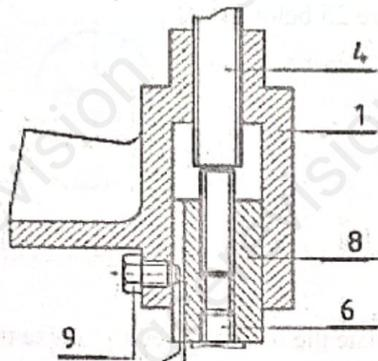

Figure 19
Questions 24 to 26 refer to figure 19 below.
24. Indicate the function of piece 9 with respect to piece 8 in figure 19 above
25. Deduce the type of relative motion possible between piece 8 and piece 9 in figure 19 above
26. Give the number of degrees of freedom permitted by the type of motion identified between piece 8 and piece 9 in figure 19 above